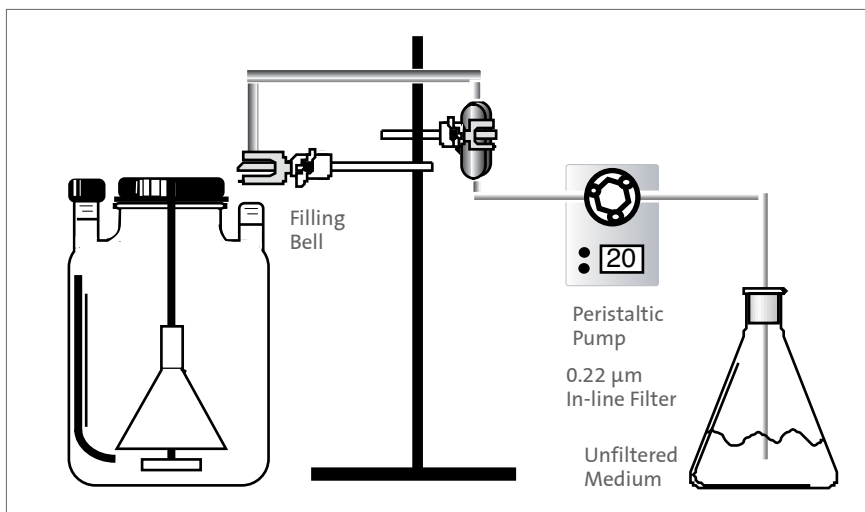

Figure 17. Large vessel being filled with the use of a filling bell and ring stand
3. “In-line” addition is an alternative. Unsterilized medium can be added by filtering “in-line,” using a length of sterilized tubing connected to a 0.2 μm filter attached between the unsterilized medium source and the vessel. Either gravity-feed or a peristaltic pump can be used to move the fluid. By using a filling bell supported by a ring stand (Figure 17), several vessels can be rapidly filled.